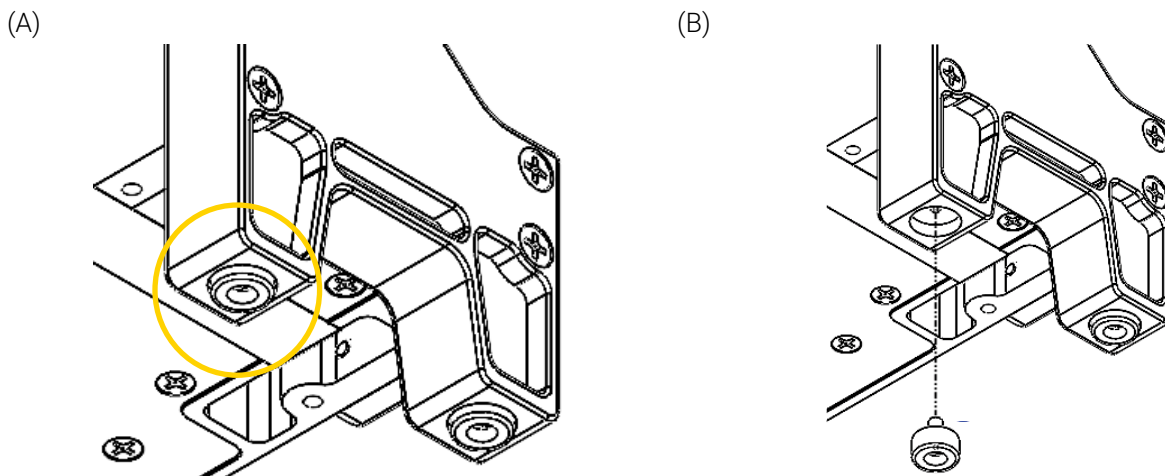

Figure 4: Removing the worn or discontinued rubber foot
1. Locate and remove the screw and foot (Figure 4), using a flat head screwdriver. The worn or discontinued foot will **not** be re-used.